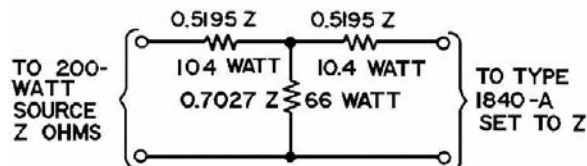

Figure 4. “T” = Network attenuator.
To use the Type 1840-A with sources of higher power (up to 200 W), a “T” -network attenuator (Figure 4) should be used. To find the proper impedance (Z), operate the source below 20 W. The resistance can then be calculated and the proper values can be inserted in the circuit.
Connect the “T” attenuator (Figure 4) between the source and the Type 1840-A. The attenuator adds 10 db to the meter-switch indication, and the meter now reads 200 watts full-scale.